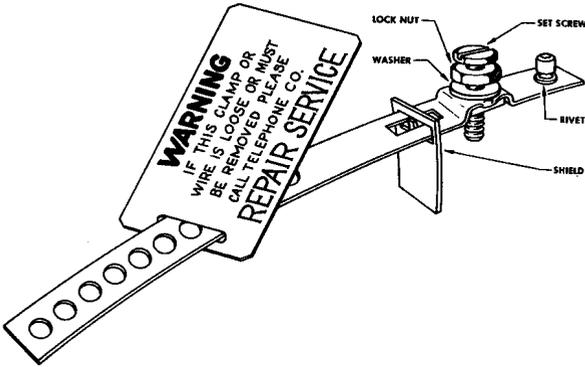

FIGURE 19. Station Ground Clamp
5.02 The station ground clamp, L ground clamp, GC16650 clamp, 3844 clamp and split bolt connector are shown in Figures 19 through 23.